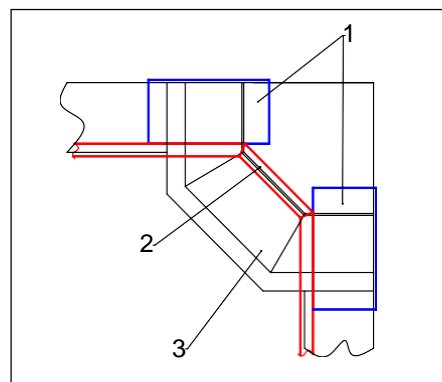

Fig. 24
3. The cornice of type 1, 3, 4 is installed over the corner ducts according to the diagram shown in Fig. 24. The space between the wall and cornice is closed with chipboard panels fixed atop the wall cabinets and exhaust hood duct.